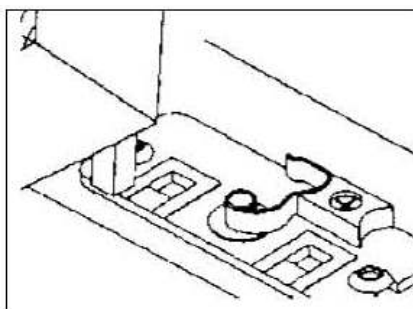

Fig. 2
2. Lift door up and out to disengage bottom door pin from mounting plate and rest door on bottom of frame. (fig 2)
2. Remove door stop plate from bottom of door to opposite side, so that straight side of door stop plate faces front of door, fig 2.